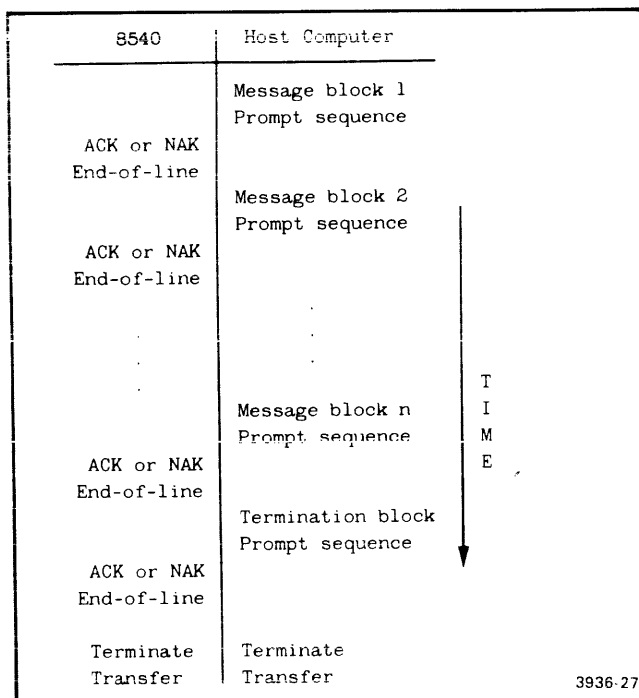

Fig. 4-6. Protocol for formatted downloads.
**Download Protocol.** After the host sends a message block followed by a prompt sequence to the receiving 8540, the receiving 8540 performs the appropriate error checking. If no transmission error occurs, the receiving 8540 responds by sending an ACK to the transmitting host. The host then continues with the transfer by sending the next message block. If the receiving 8540 detects a transmission error, it responds by sending a NAK to the host. When the transmitting host receives a NAK, it re-sends the message block that was incorrectly received. Fig. 4-6 illustrates the protocol for a formatted download.